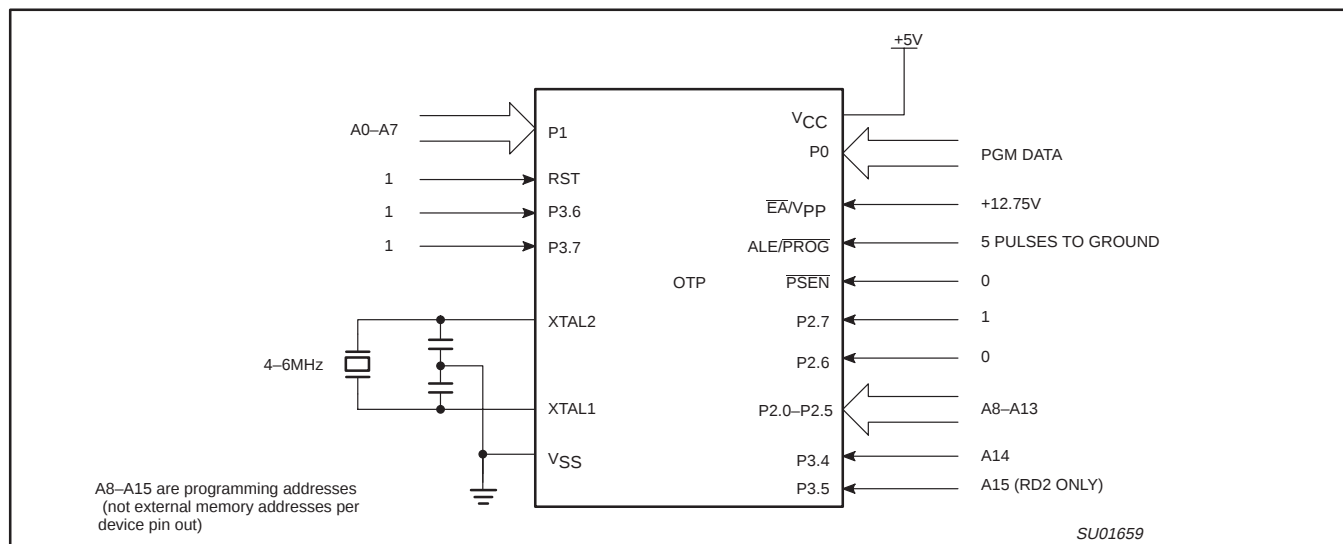
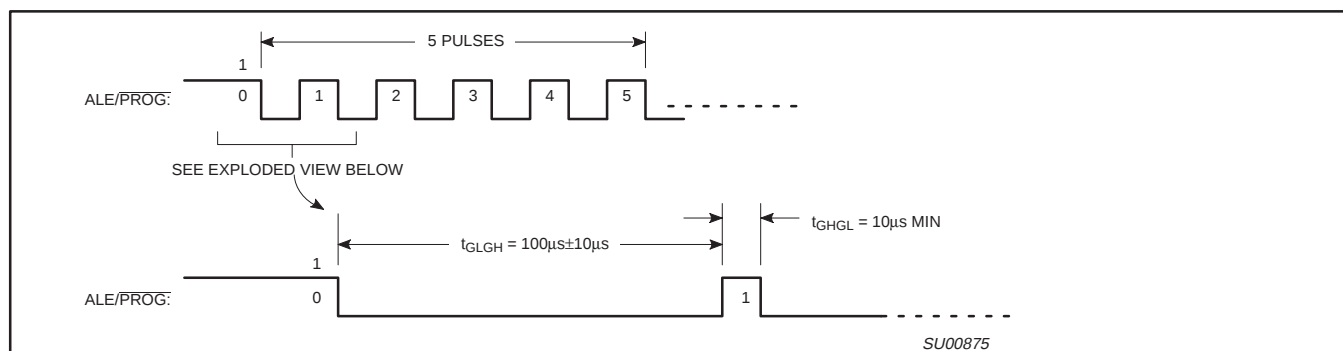
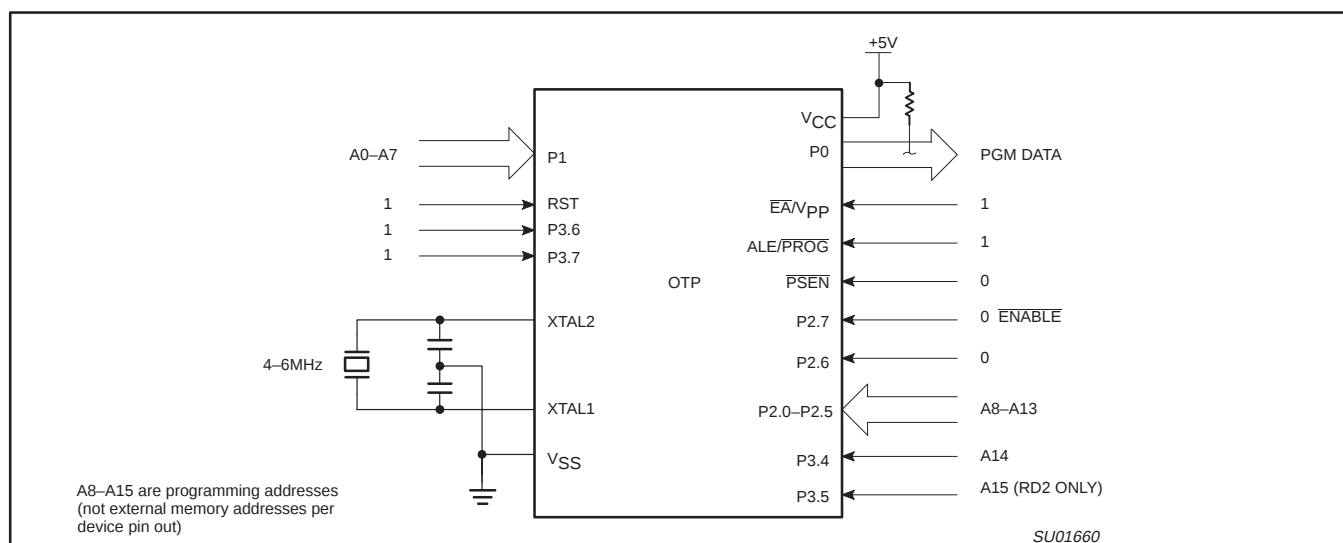

Figure 64. Programming Configuration
Figure 65. $\overline{\text{PROG}}$ Waveform
Figure 66. Program Verification
Table 17 shows the logic levels for reading the signature byte, and for programming the program memory, the encryption table, and the security bits. The circuit configuration and waveforms for quick-pulse programming are shown in Figures 64 and 65. Figure 66 shows the circuit configuration for normal program memory verification.
The setup for microcontroller quick-pulse programming is shown in Figure 64. Note that the device is running with a 4 to 6MHz oscillator. The reason the oscillator needs to be running is that the device is executing internal address and program data transfers.
The address of the EPROM location to be programmed is applied to ports 1 and 2, as shown in Figure 64. The code byte to be programmed into that location is applied to port 0. RST, $\overline{\text{PSEN}}$ and pins of ports 2 and 3 specified in Table 17 are held at the 'Program Code Data' levels indicated in Table 17. The ALE/PROG is pulsed LOW 5 times as shown in Figure 65.
If security bits 2 and 3 have not been programmed, the on-chip program memory can be read out for program verification. The address of the program memory locations to be read is applied to ports 1 and 2 as shown in Figure 66. The other pins are held at the 'Verify Code Data' levels indicated in Table 17. The contents of the address location will be emitted on port 0. External pull-ups are required on port 0 for this operation.
* FOR PROGRAMMING CONFIGURATION SEE FIGURE 64.
FOR VERIFICATION CONDITIONS SEE FIGURE 66.